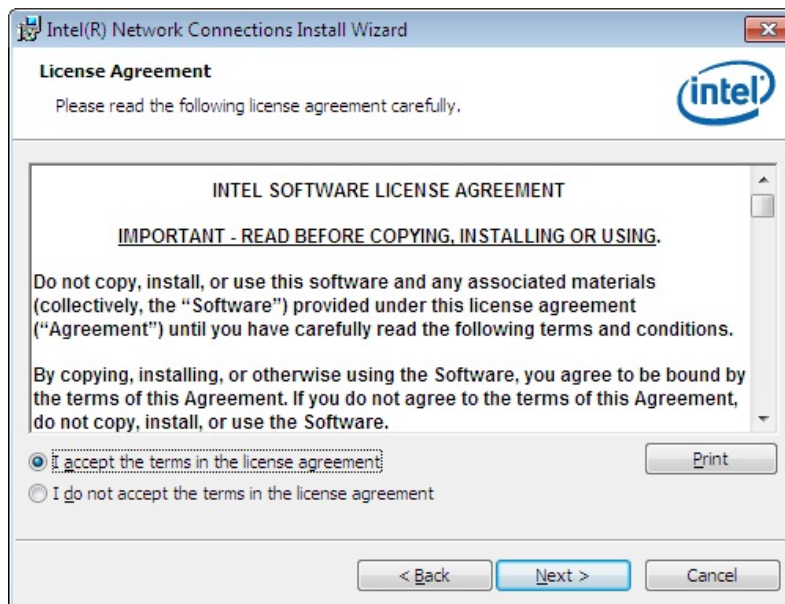

Figure 6-18: LAN Driver License Agreement
Step 5: The **License Agreement** in **Figure 6-18** appears.